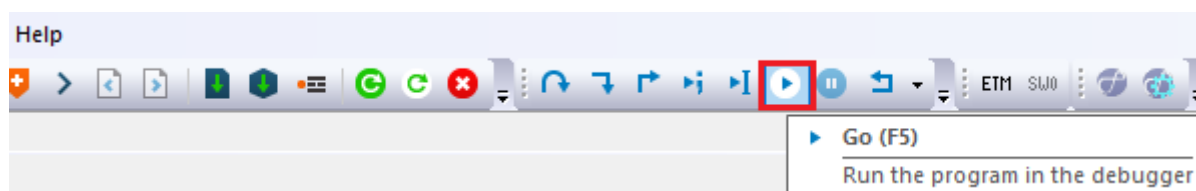

Figure 1.15 Run button
4. Press **F5** or the **Go** button (Figure 1.15) to start the application.